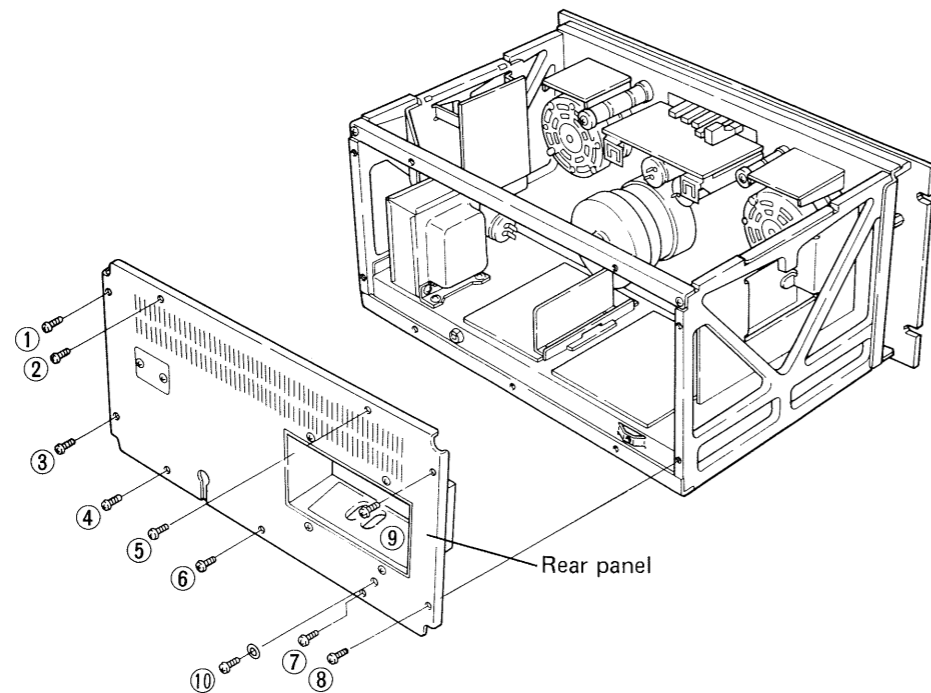

Fig. 17
Remove the screws ①~⑨ to detach the rear panel, then remove the screw ⑩ for ground as shown in Fig. 17.